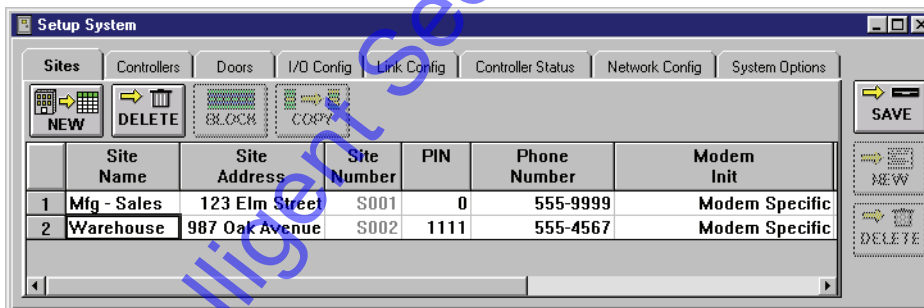

Figure 8-25: Site Selected for Deletion
2. Click on the Warehouse Site Name cell. It becomes highlighted to show it has been selected (see Figure 8-25).